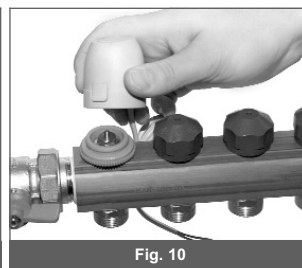

Fig. 10
4. Fix actuator on the adapter and turn at desired angle (Fig.10).